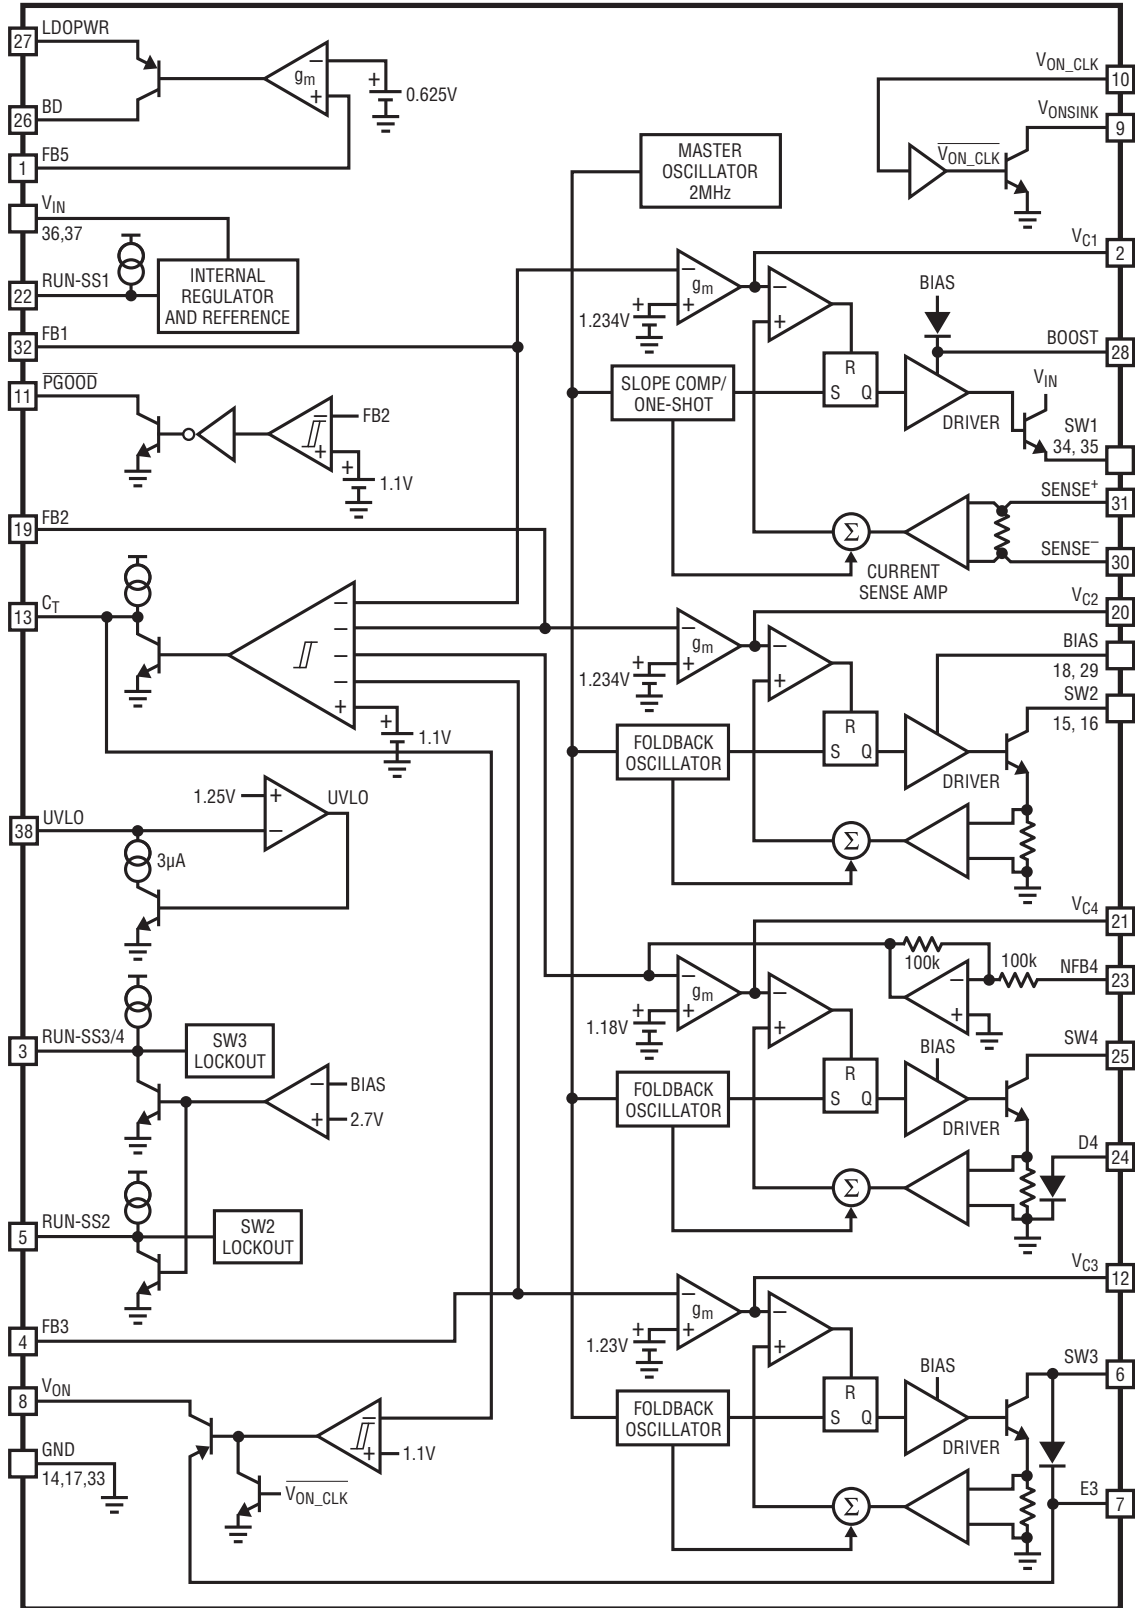

Figure 1
**FB5 (Pin 1):** Feedback Pin. Tie the resistor tap to this pin and set the output of the LDO according to  $V_{LDO} = 0.625 \cdot (1 + R_{14}/R_{15})$ . Reference designators refer to Figure 1.
**FB3 (Pin 4):** Feedback Pin. Tie the resistor tap to this pin and set  $V_{ON}$  according to  $V_{ON} = 1.23V \cdot (1 + R_8/R_9) - 150\text{mV}$ . Reference designators refer to Figure 1.
The LT3513 is a highly integrated power supply IC containing four separate switching regulators and a low dropout linear regulator (LDO). Switching regulator 1 is a step-down 2.5A regulator with inductor current sense and an integrated boost Schottky diode. Switching regulator 2 can be configured as a step-up or SEPIC converter and has a 1.2A switch. Switching regulator 3 consists of a step-up regulator with a 0.25A switch as well as an integrated Schottky diode. Switching regulator 4 is a negative regulator with a switch current limit of 0.25A and an integrated Schottky diode. Linear regulator 5 is capable of providing 8mA of current to the base of an external NPN transistor. The regulators share common circuitry including input source, voltage reference and master oscillator. Operation can be best understood by referring to the Block Diagram as shown in Figure 1.
The catch diode (D1 from Figure 1) conducts current only during switch off time. Average forward current in normal operation can be calculated from: